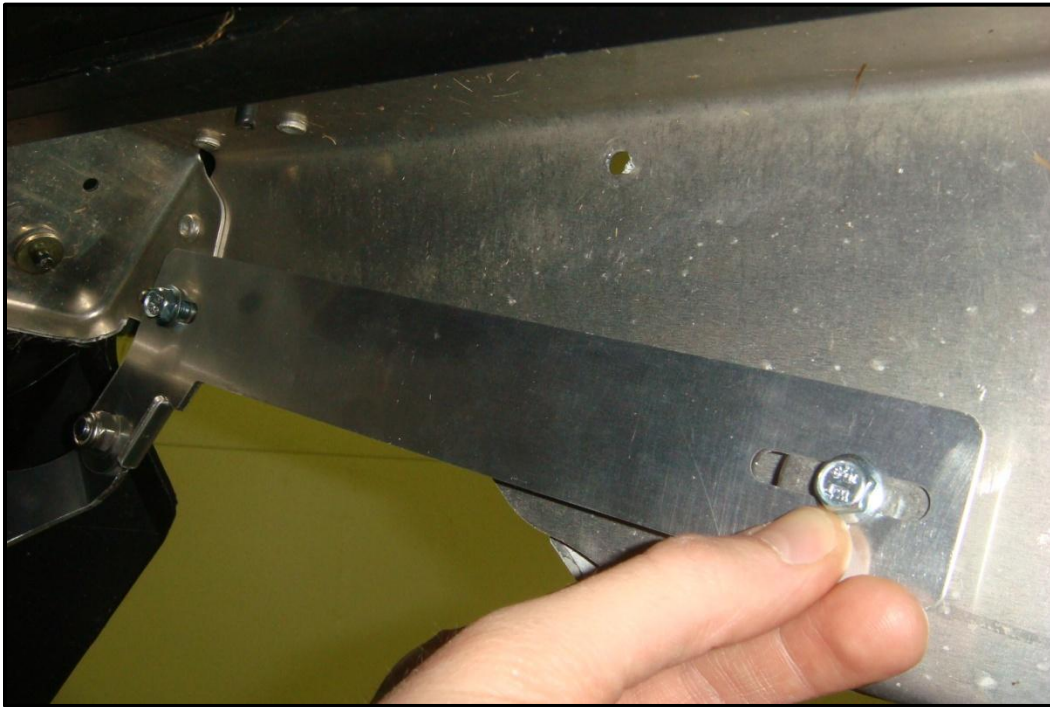

Figure 6 –Front mounting bolt (4), and spacer (5) being installed.
7. With the spacer (5) still in place over the front mounting hole, rotate the Snow Flap Saver assembly up into place and pass a new mounting bolt (4) through the mounting base (3) and then the spacer (5) and thread the bolt (4) into the mounting hole in the tunnel (Figure 6).